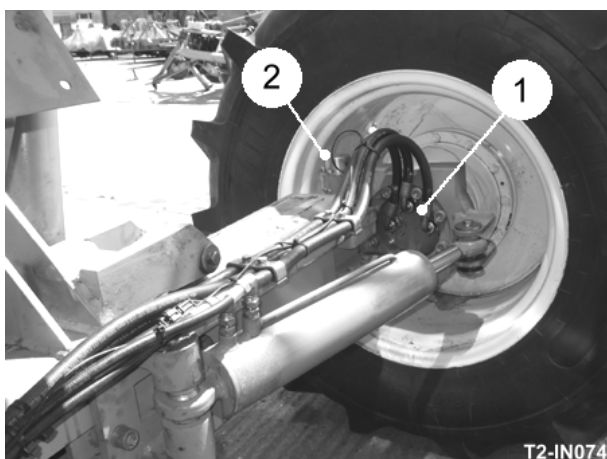
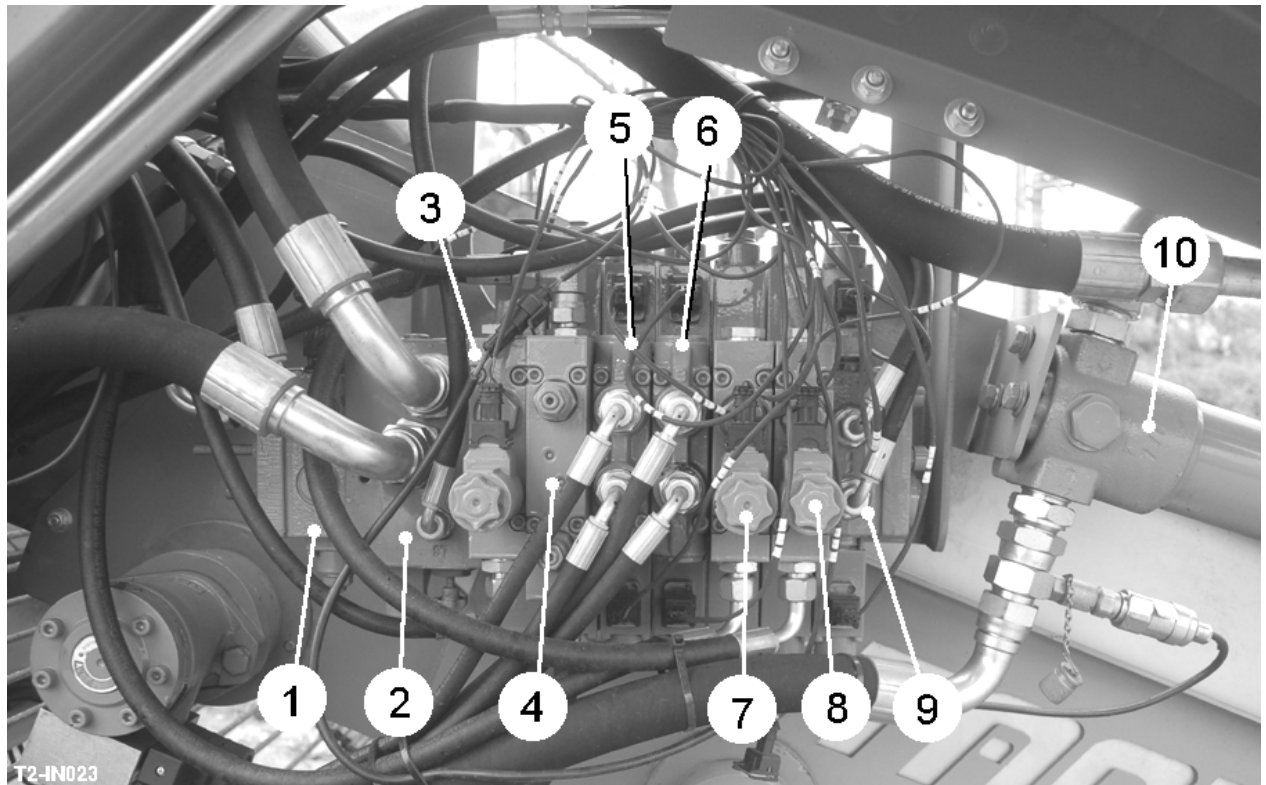
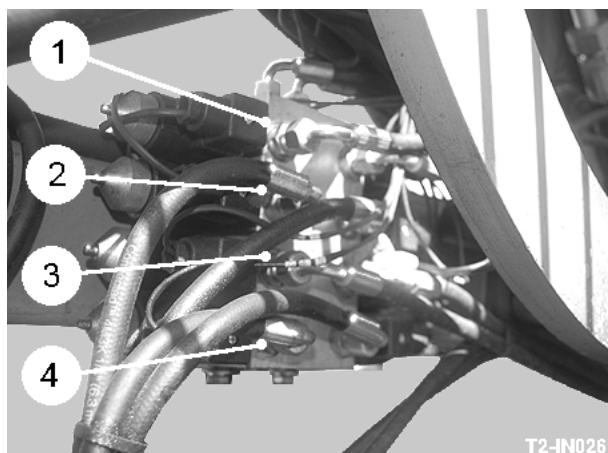
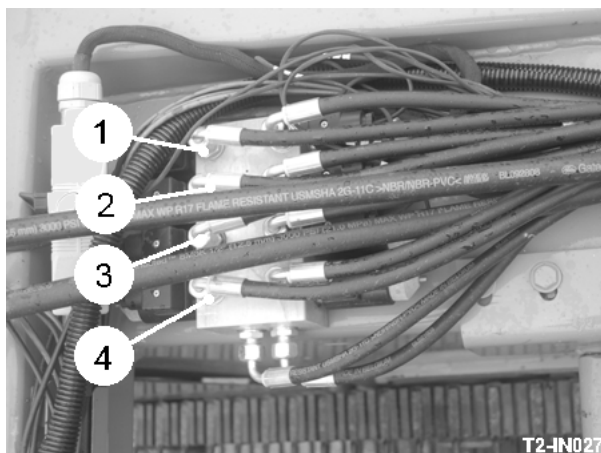

Fig 21
Fig 24
Fig 25
Fig 26
The powered axle provides additional traction during work. The powered axle transfers power from the tractor PTO to hydraulically drive the harvester wheels up to a maximum speed of 5.5 kmh (3.5 mph). This is achieved by means of a load sensing, pressure compensated, variable displacement pump (item 1, fig 26), which provides the hydraulic oil flow to drive the wheel motors (item 1, fig 21).
The hydraulic ram services and discharge elevator/spreader drives are supplied with hydraulic oil from the tractor. A minimum supply of 50 litres/minute is fed through the pressure filter (item 10, fig 24) into the inlet section of the auxiliary valve bank (see fig 24). The system will accept up to 80 litres/minute maximum. The flow rate of all the valves are proportionally controlled from the electrical system and are adjustable via the service terminal. Additional ram services are powered by the master valve section via slave valves. The slave valve (see fig 25) operates the drawbar, web split, machine level and wheel tracking rams. The slave valve (see fig 26) operates the 1st and 2nd Omega separator angles and clod roller heights. The elevator valve section at the rear of the auxiliary valve bank powers the discharge web and spreader motors. The elevator valve has priority over the ram service valves. The flow rate for the spreader is adjustable independently up to the flow set for the elevator. The return oil flow from the valves and motors recombines and is returned to the tractor, ideally through a low back pressure or free-flow return coupling. No separate relief valve is fitted to the auxiliary circuit, the system relies totally on the tractor relief valve.